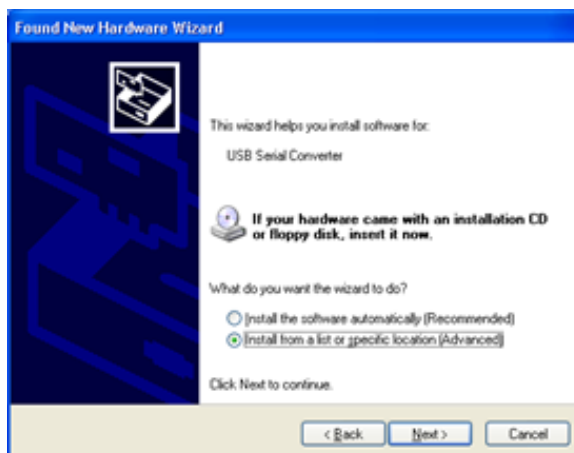

Figure 8: Opt out of the automated installation
8. Next, opt for a specific location at the automated installation prompt, as shown in *Figure 8*.